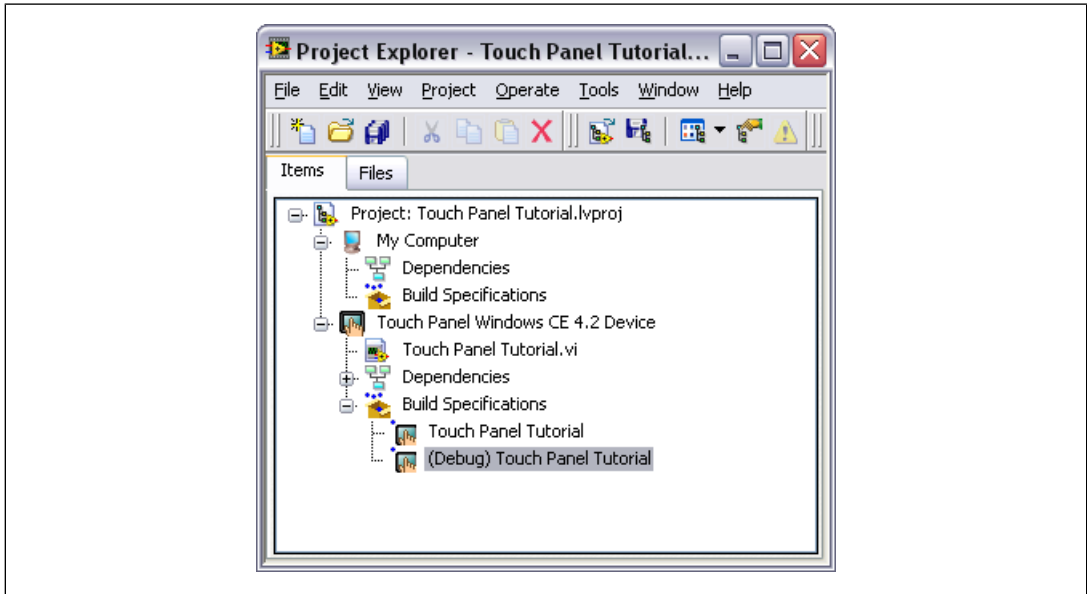

Figure 9. Two Build Specifications in the Project Explorer Window
- Click the **OK** button. The build specification you just created appears in the **Project Explorer** window, as shown in Figure 9.